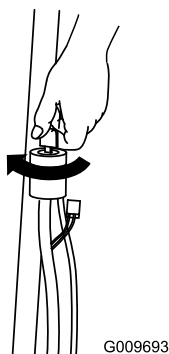
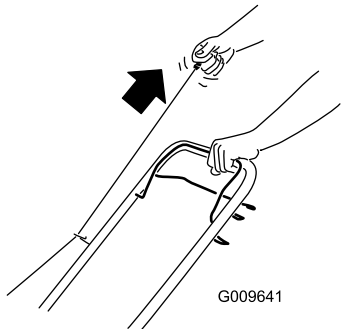

Figure 11
Figure 12
2. Turn the ignition key (Figure 11) or pull the recoil start handle (Figure 12).